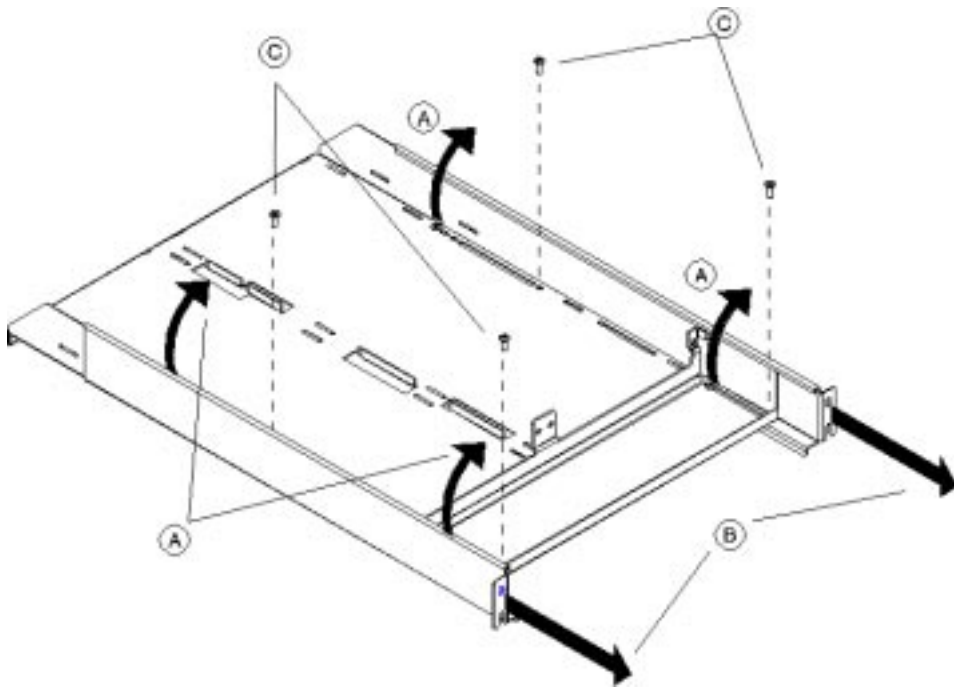

FIGURE 1-3 Customizing the Rack Depth
3. Before installing the shelf, adjust the shelf depth to fit your rack (FIGURE 1-3). To customize the fit:
- b. Slide the side rails back until the front rail hole aligns with the 34-inch depth hole (FIGURE 1-3).
- Do not tighten the screws until you install the shelf (FIGURE 1-3).